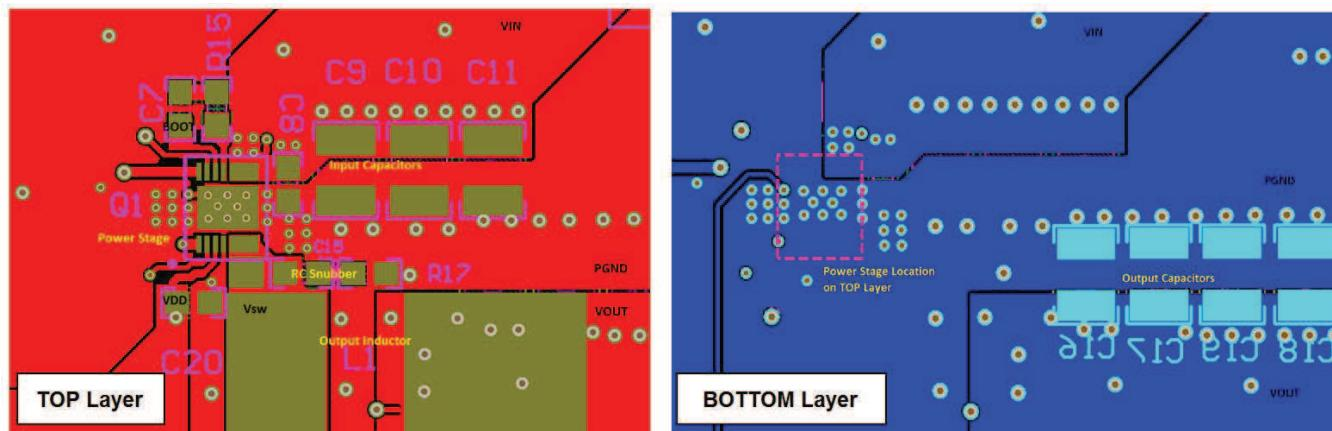

Figure 14. Recommended PCB Layout (Top Down View)
- The placement of the input capacitors relative to V_{IN} and P_{GND} pins of CSD95379Q3M device should have the highest priority during the component placement routine. It is critical to minimize these node lengths. As such, ceramic input capacitors need to be placed as close as possible to the V_{IN} and P_{GND} pins (see Figure 14). The example in Figure 14 uses 1 × 1-nF 0402 25-V and 3 × 10-μF 1206 25-V ceramic capacitors (TDK part number C3216X5R1C106KT or equivalent). Notice there are ceramic capacitors on both sides of the board with an appropriate amount of vias interconnecting both layers. In terms of priority of placement next to the power stage C8, C9, C10 and C11 should follow in order.
- Use the smallest drill size allowed in your design. The example in Figure 14 uses vias with a 10-mil drill hole and a 16-mil capture pad.